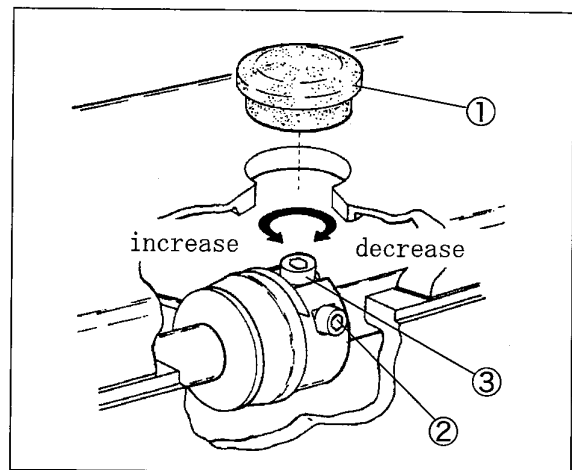

Fig. 72
- (1) Remove the top cover seal plug ①.
- (2) Rotate the handwheel until the screw ② of the upper feed roller regulator comes right above. Loosen the screw ② with a hexagon socket screwdriver.
- (3) Rotate the handwheel until the adjusting screw ③ comes right above. (Fig. 72)
- (4) Turn the adjusting screw ③ to adjust the feeding amount.
- (5) Tighten the screw ② with a tightening torque of 2.5 N·m securely.